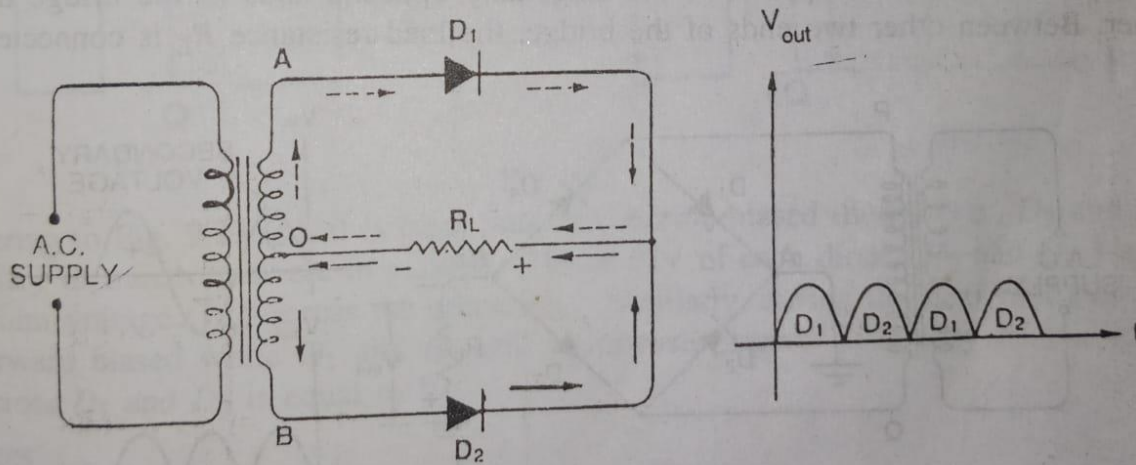

Fig. 9.19
The circuit employs two diodes  $D_1$  and  $D_2$  as shown in Fig. 9.19. A centre tapped secondary winding  $AB$  is used with two diodes connected so that each uses one half-cycle of input a.c. voltage. In other words, diode  $D_1$  utilises the a.c. voltage appearing across the upper half ( $OA$ ) of secondary winding for rectification while diode  $D_2$  uses the lower half winding  $OB$ .
**Operation.** During the positive half-cycle of secondary voltage, the end  $A$  of the secondary winding becomes positive and end  $B$  negative. This makes the diode  $D_1$  forward biased and diode  $D_2$  reverse biased. Therefore diode  $D_1$  conducts while diode  $D_2$  does not. The conventional current flow is through diode  $D_1$ , load resistor  $R_L$  and the upper half of secondary winding as shown by the dotted arrows. During the negative half-cycle, end  $A$  of the secondary winding becomes negative and end  $B$  positive. Therefore, diode  $D_2$  conducts while diode  $D_1$  does not. The conventional current flow is through diode  $D_2$ , load  $R_L$  and lower half winding as shown by solid arrows. Referring to Fig. 9.19, it may be seen that current in the load  $R_L$  is in the same direction for both half-cycles of input a.c. voltage. Therefore, d.c. is obtained across the load  $R_L$ . Also, the polarities of the d.c. output across the load should be noted.